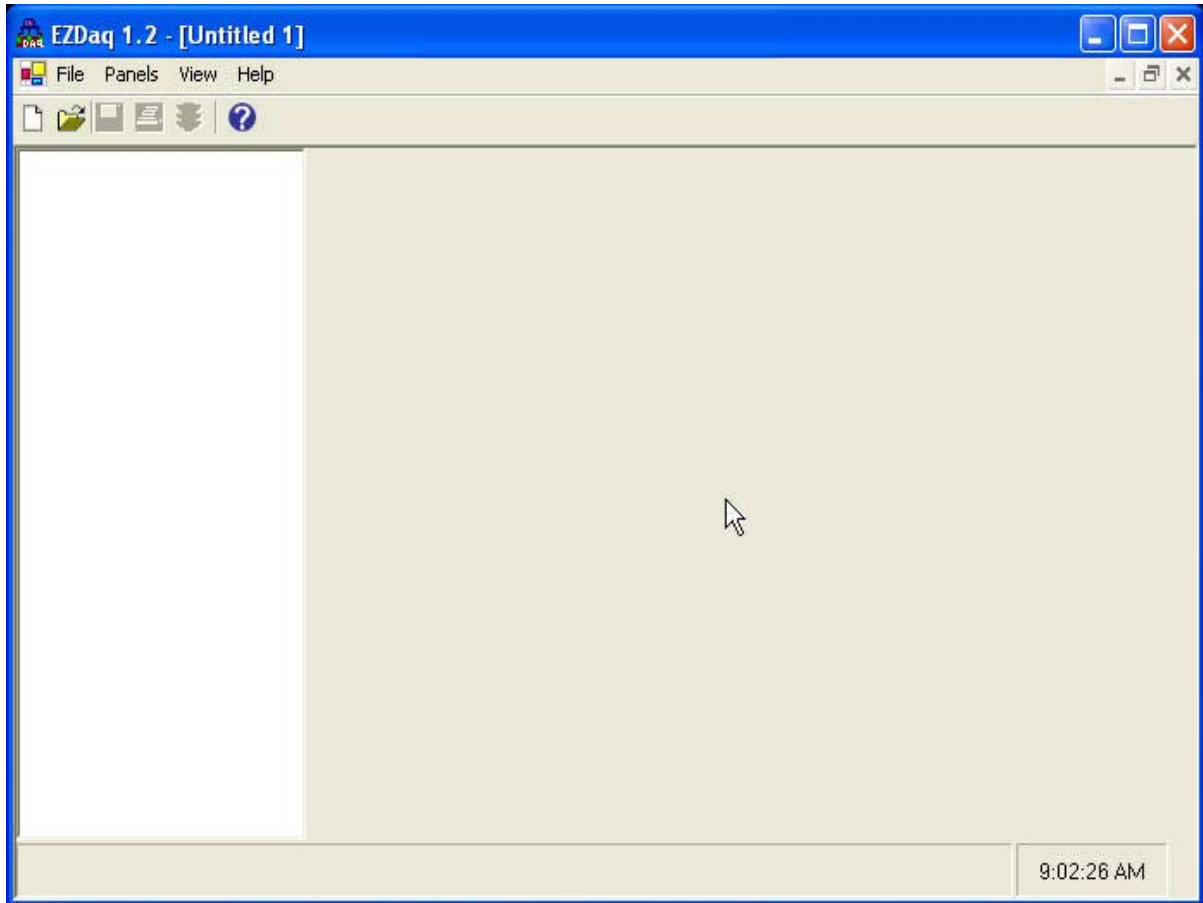

Fig. 5.2-A: Creating a new EZDAQ project
- 2) Create a new schedule file (by clicking File->New or clicking New File icon on the toolbar). Fig 5.2-A shows a screen capture of the EZDAQ application after this step. Note that the Panels menu and the View menu show up at the top. The next step consists of adding one or more panels to the schedule file.